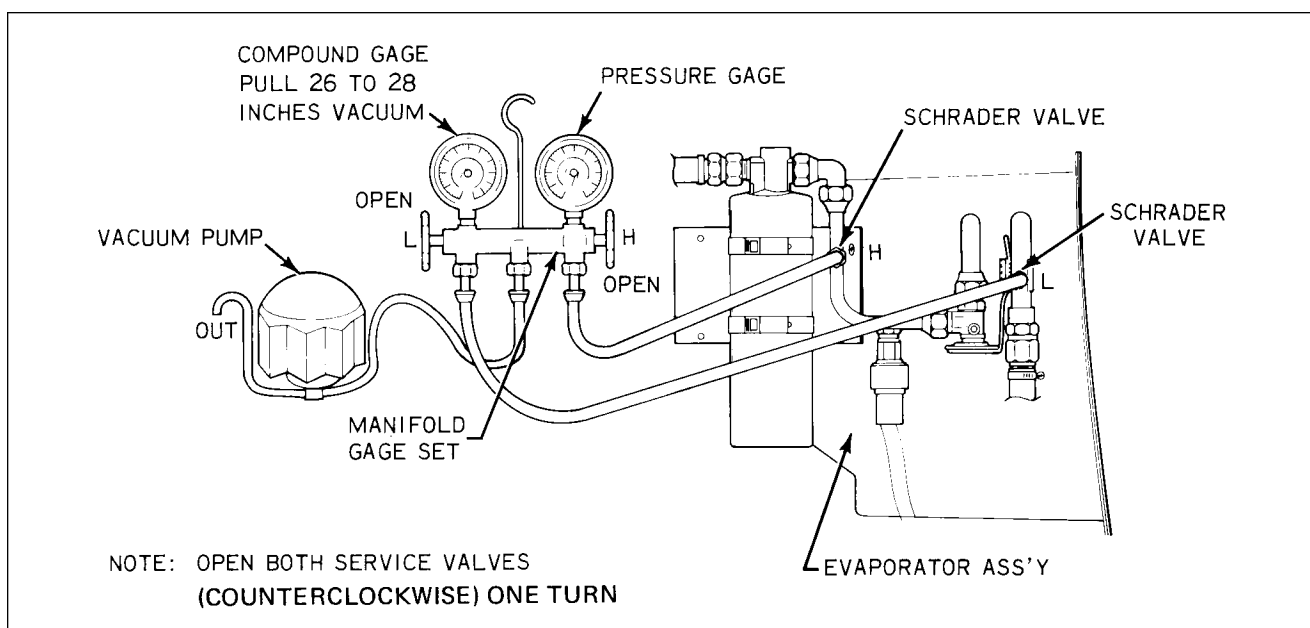

Figure 21-9. Evacuation Hookup
2. Connect the manifold gauge set to the airplane service valves. (Refer to Figure 21-9.)